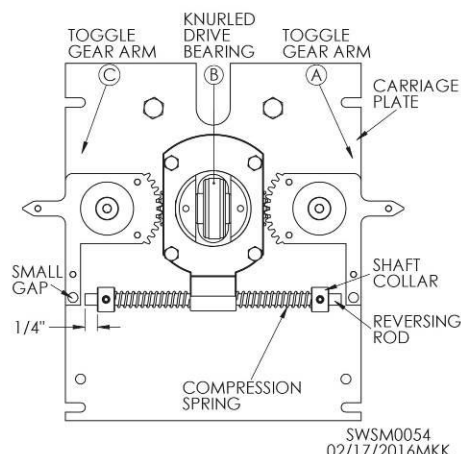

Figure 43 - Aligned Reversing Mechanism
- 3 Compression spring should have same measurement on both sides of carriage housing to shaft collar. Ensure distance between shaft collar and end of reversing rod is same on both ends. Distance between reversing rod and arm on toggle gears should also be checked for distance. **Figure 43.**